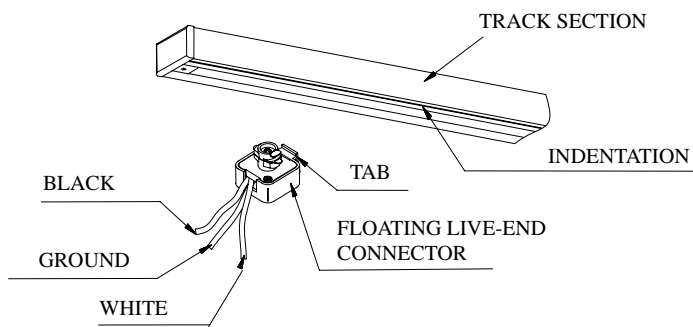

FIG. 2
1. The track section and floating live-end connector must be assembled so that polarity between conductors is maintained. **NOTE:** The floating live-end connector has a tab on one side and the track has an indentation which runs the length of the track channel (Refer to Figure 2.). Align the floating live-end connector tab with the track indentation and insert the floating live-end connector into the track channel so that the base of connector fits flush against the track twist connector clockwise 1/4 (one quarter) turn so that the connector fits snugly against the track.